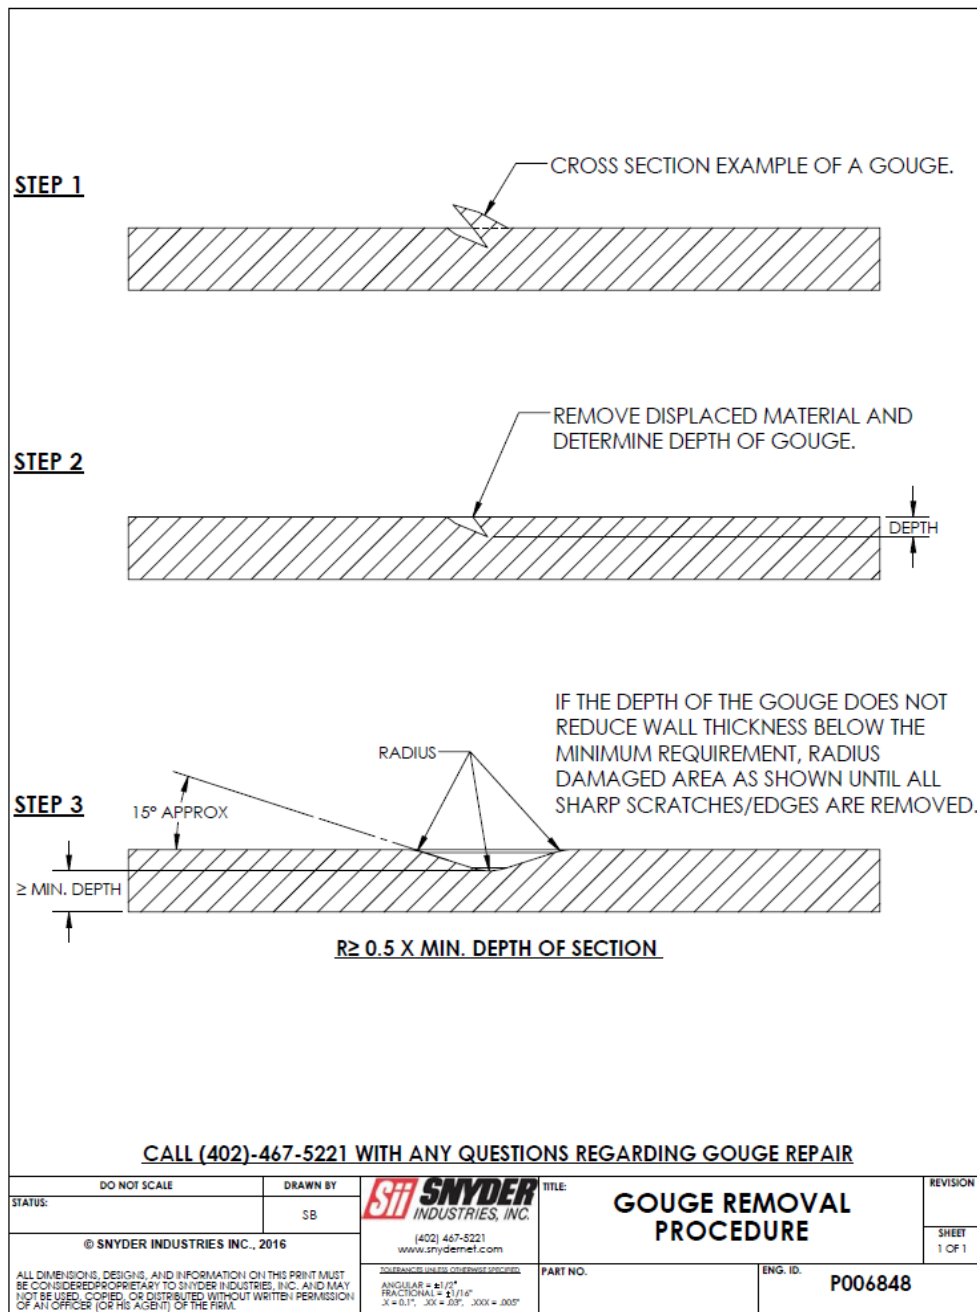

Figure 5.1
5.1.7 GOUGE REMOVAL – Should your tank get gouged during shipping or off-loading it may be repaired using the gouge removal procedure – refer to figure 5.1.